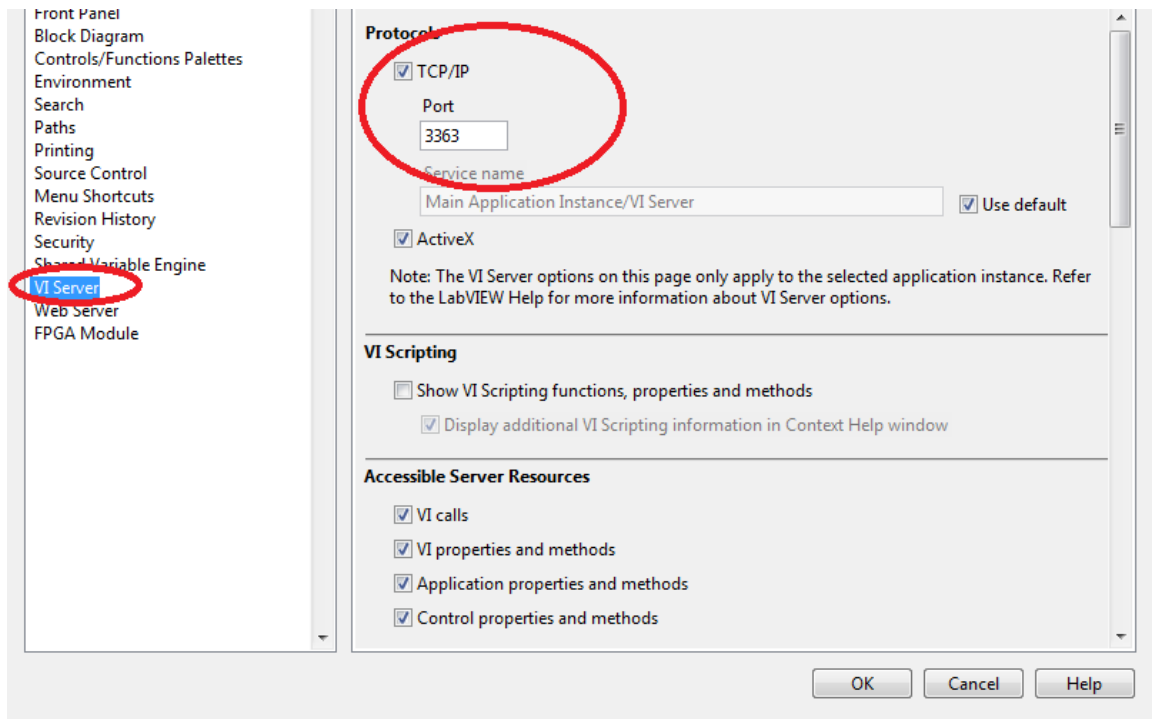

Figure A-2: Configuring VI Server
- 2) Under “Categories” on the left-hand side, select ‘VI server’. Make sure “TCP/IP’ box is checked (Figure A-2)